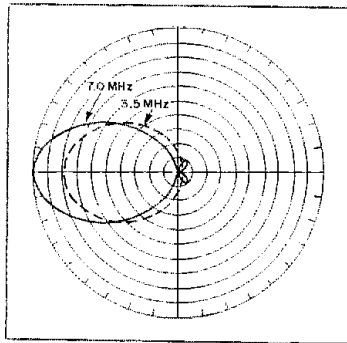

Fig. 5 — Polar plot of a 2-band, 4-element array.
Richard Moser, W8XM, was one of many amateurs who requested the ARRAY FORTRAN program mentioned in the 1976 article. He explored by computer modeling the possibility of dual-band operation using the four-element array technique. W8XM found that the diamond configuration with 2/10-wave element spacing at the fundamental (F) and 4/10 spacing at 2F would give the polar plot shown in Fig. 5.